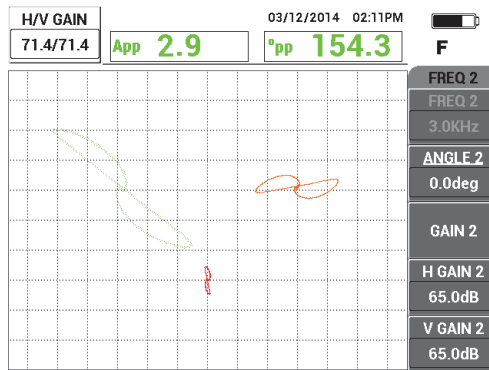

Figure 5-139 Adjusting the frequency 1 gain
4. Press the GAIN key (**dB**), and then increase the frequency 1 gain until the hole signal reaches about 4 vertical divisions in height (see Figure 5-139 on page 225).